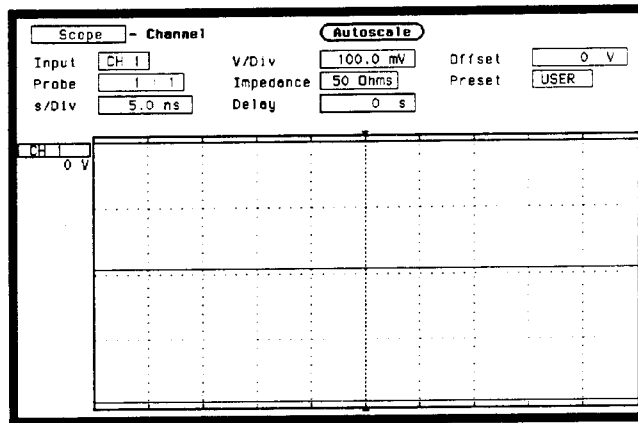

Figure 3-59. Channel Menu Configuration
- Set **Input** to **CH 1**, **V/Div** to **100.0 mV**, **Offset** to **0 V**, **Probe** to **1:1**, **Impedance** to **50 Ohms**, and **s/Div** to **5.0 ns** as in figure 3-59.